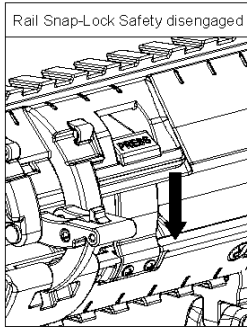

Figure 5.9
- 5.2.4 Open Upper Rail (#5) from Lower Rail (#4) until Rail Snap-Lock Safety (#7) contacts the upper rail. Push in the safety latch and pull up on Upper Rail to allow the Upper Rail to fully open (Figure 5.9). Note: The Long Rail has 2 Snap-Lock Safeties, while the Short, Subcompact and Compact Rails have 1 Snap-Lock Safety.